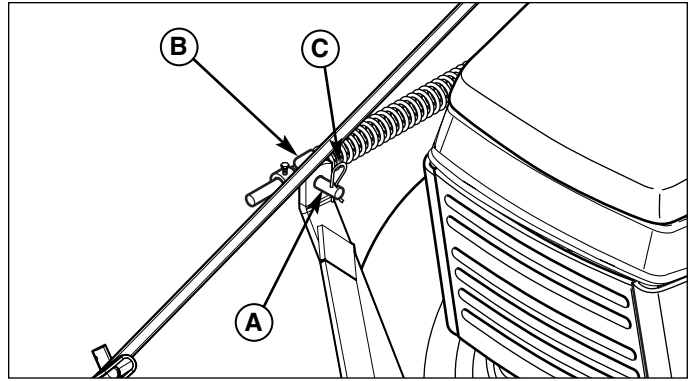

Figure 20. Lift Rod Assembly
2. Insert prong of rod guide (A, Figure 20) through hole in upright of lift arm (B), and secure with spring clip (C).